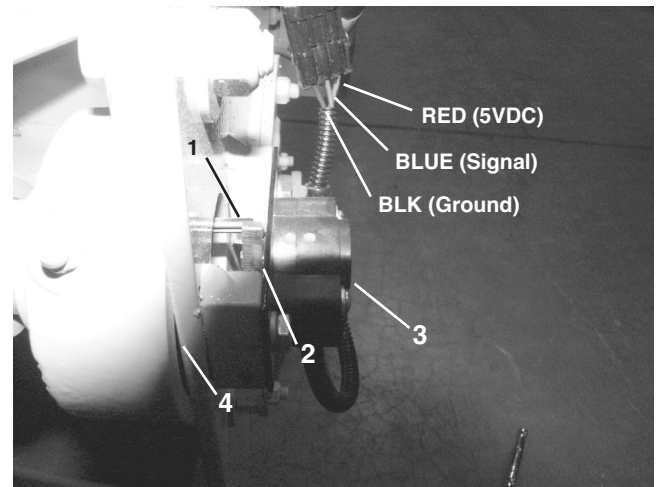

Figure 16. Left Hopper Transducer
7. Using needle probes on a digital voltmeter, measure the voltage between the red and black wires at the gate transducer (**Figure 16**). The value should be 5.0 volts DC. Next, check the voltage between the blue and black wires. This value should be between 0.5 and 1.5 volts DC.